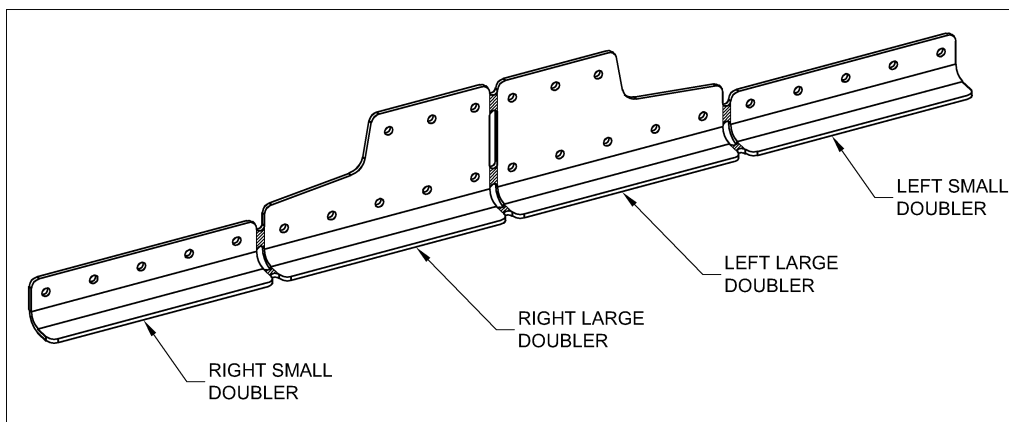

FIGURE 10: SEPARATE THE AILERON ATTACH DOUBLER
Step 15: Label, then separate the Aileron Attach Doubler into individual parts by removing the shaded areas shown in Figure 10.